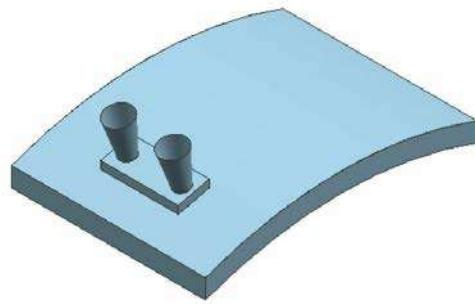

Figure 11-82 Resultant surface model with the mirrored feature
- Choose the **Plane** button from the dialog box and then select the YC-ZC plane as the mirroring plane. Next, choose the **OK** button; the mirror feature is created, refer to Figure 11-82.